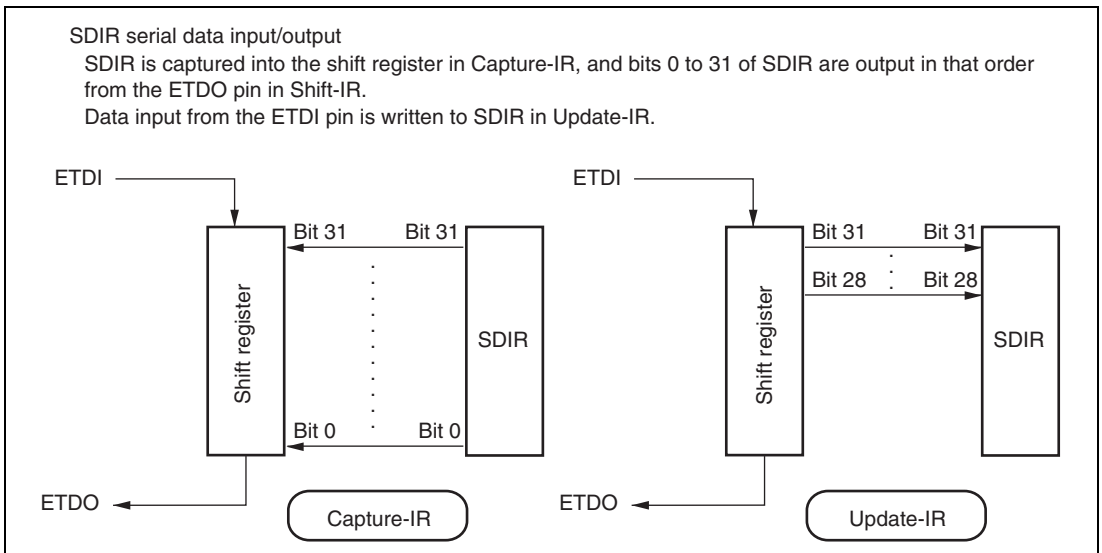

Figure 26.4 Serial Data Input/Output (1)
5. Data input/output in serial data transfer starts from the LSB. Figure 26.4 and 26.5 shows examples of serial data input/output.